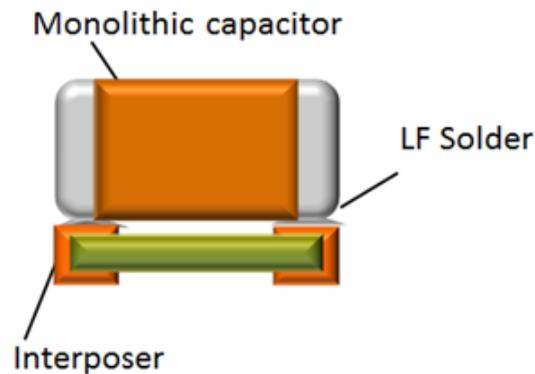
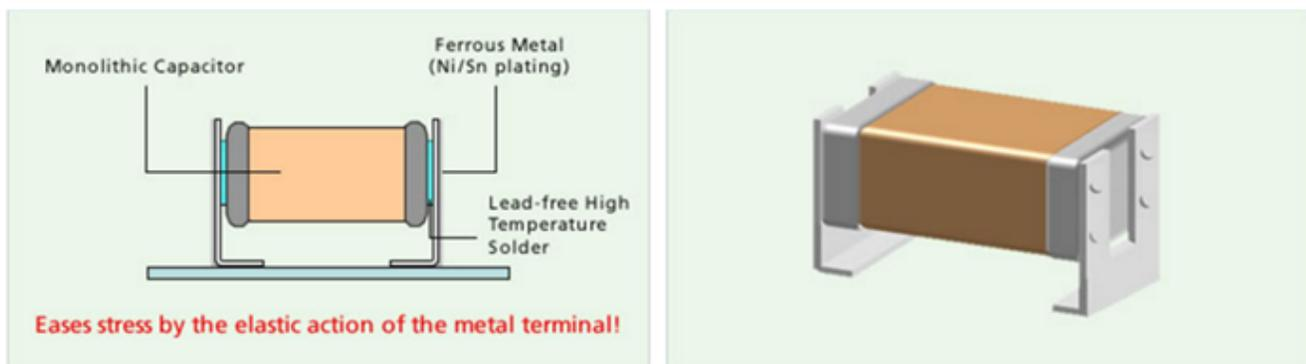
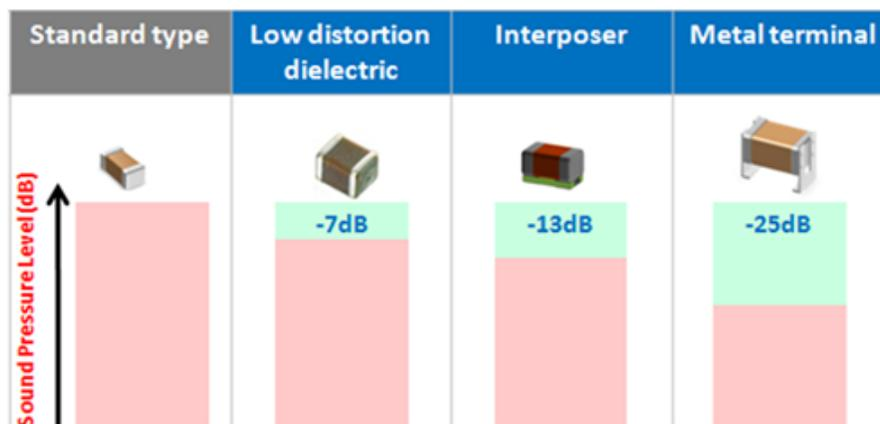

Figure 2. Mechanical Configuration of “Interposer” Ceramic Capacitors
Figure 3. Mechanical Configuration of “Metal Terminal” Ceramic Capacitors
Figure 4. Acoustic Noise Reduction Effect by Each Capacitor (Typical Value)
- Use acoustically quieter capacitors.** Capacitor manufactures have already developed ceramic capacitors with low distortion dielectric material, which exhibit lower ferroelectric properties and smaller deformation in regards to a voltage change. And there is a series manufactured by Murata that the capacitor is on interposer substrate to reduce the acoustic noise (Figure 2). Murata also has a series with a special mechanical configuration; it uses metal terminals to mount the capacitor on the PCB board to achieve noise reduction by absorbing mechanical impact (Figure 3). Unfortunately, this kind of capacitor tends to be more expensive, which prevents its wide use by end-equipment manufacturers. The effect of noise suppression depends on the type of capacitors. (Figure 4)